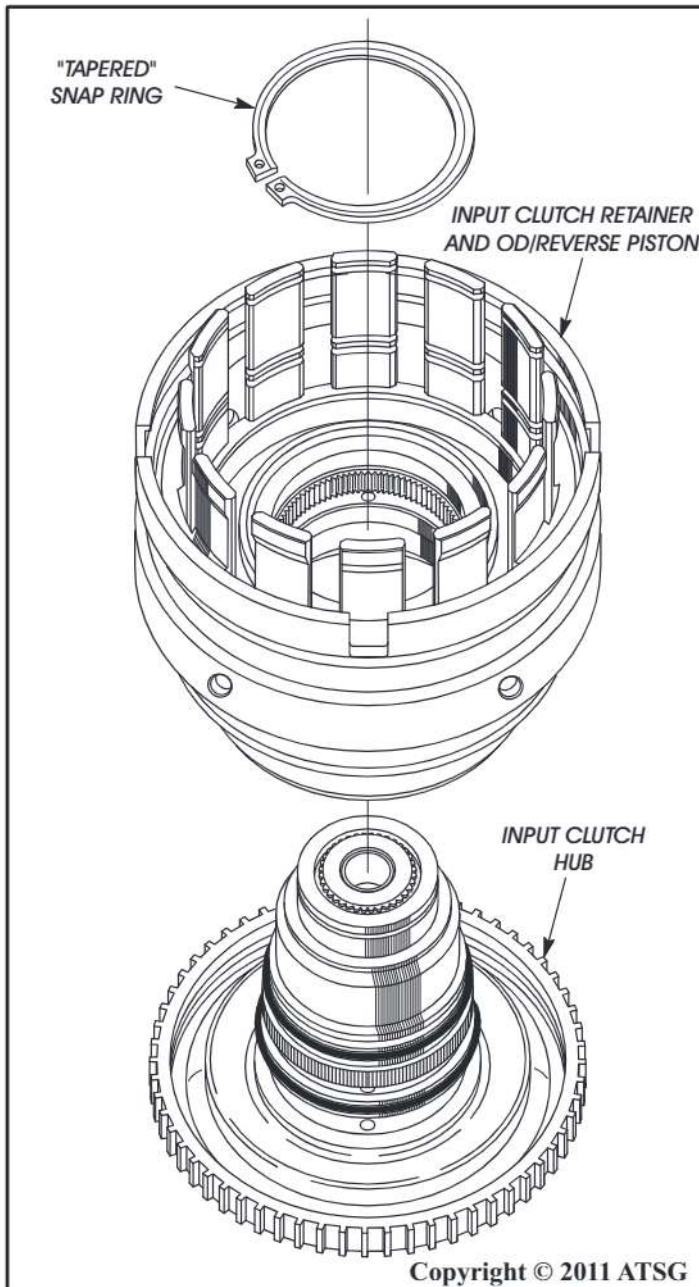

Figure 99
15. Install input clutch retainer and OD/Reverse piston assembly onto the input clutch hub, as shown in Figure 99.
16. Install the input clutch retainer **tapered** snap ring, with the **tapered side facing up**, into the groove in the input clutch hub as shown in Figure 99.